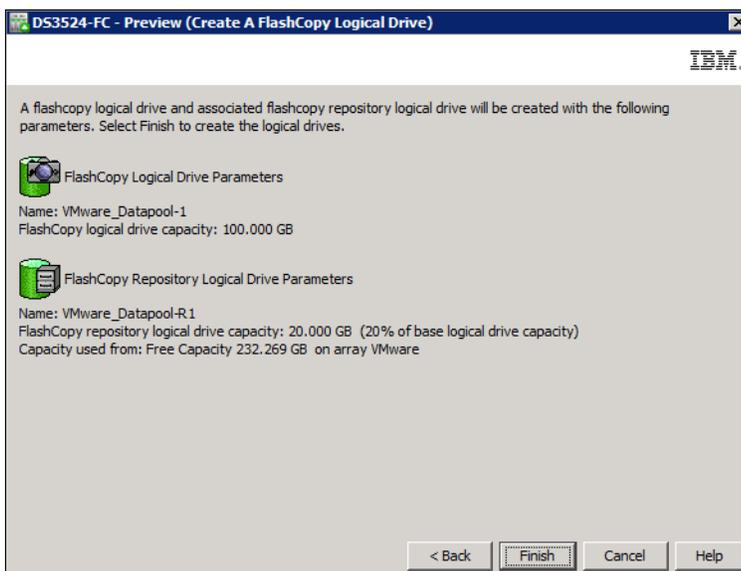

Figure 2-9 Create FlashCopy Logical Drive Wizard: Preview
- d. The Create FlashCopy Wizard Preview panel (Figure 2-9) is displayed. It lists components associated with the FlashCopy. Review the information and click **Finish**.